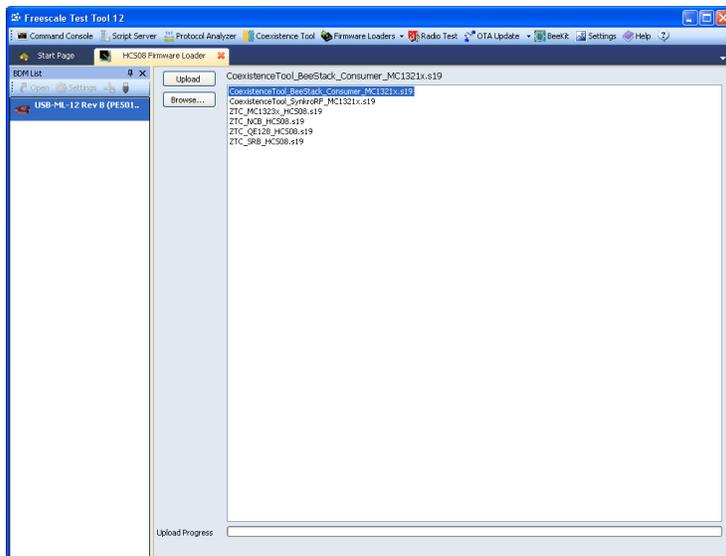

Figure 8-9. HCS08 Firmware Loader Window
2. From the Test Tool (version 12 or later) start page, click on Launch HCS08 Firmware Loader. The HCS08 Firmware Loader appears as shown in Figure 8-9.